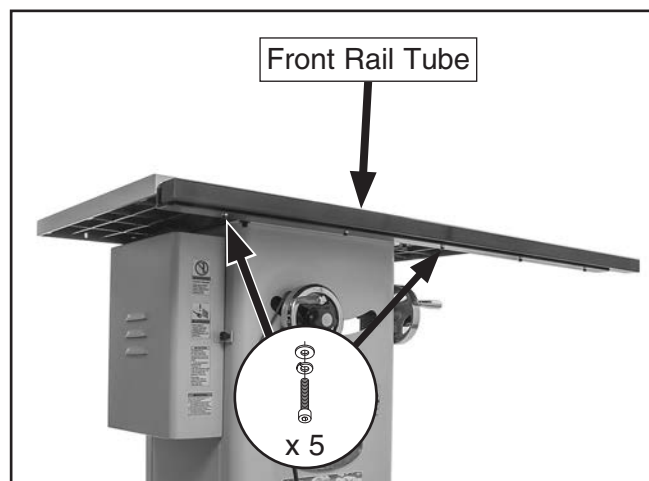

Figure 24. Front rail tube attached to front rail.
10. Install front rail tube onto front rail with (5) M6-1 x 16 cap screws, 6mm flat washers, and 6mm lock washers, as shown in **Figure 24**. Finger-tighten fasteners.